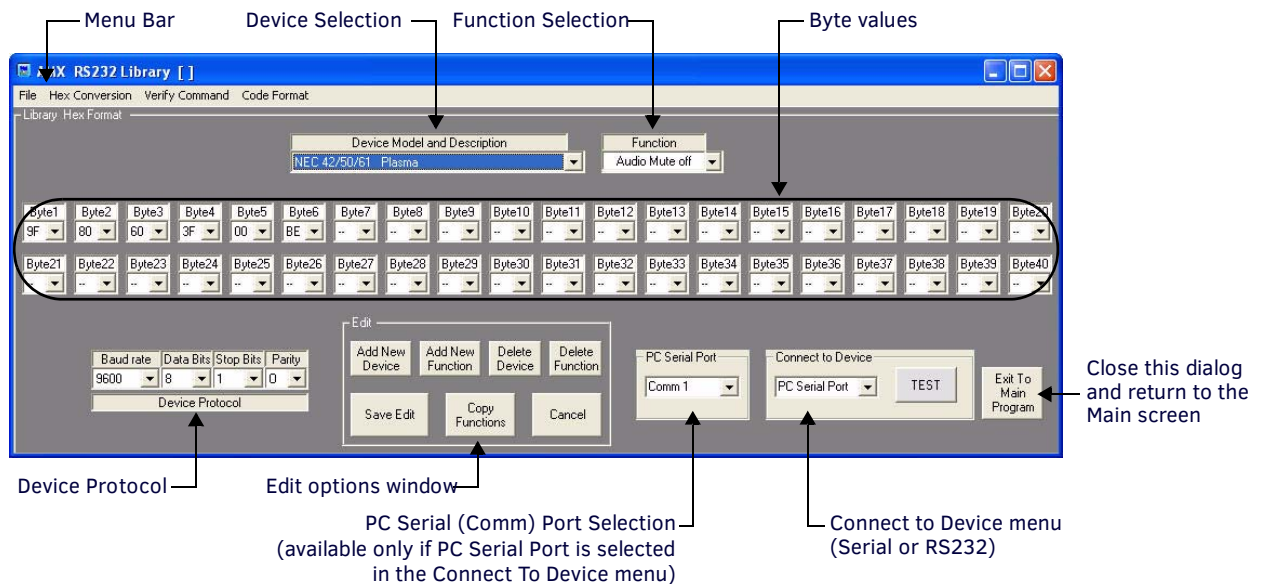

FIG. 61 AMX RS232 Library dialog
To view the RS232 libraries, open the RS232 window then click the **View RS232 Library** button to open the *AMX RS232 Library* dialog (FIG. 61).
1. Click the **Add New Device** button in the *Edit* options (see FIG. 61) to invoke the *Add New Device* window (FIG. 62).